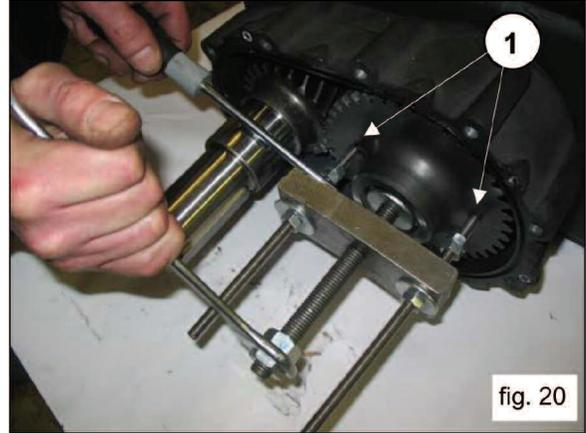

fig. 17
Remove the reduction gear box cover fixing screws. Position the holes and screw in 3 grub screws or M8 threaded screws (1, fig. 17) with the function of extractors and simultaneously tap on the pinion in such a way that the bearing remains on during cover extraction (fig. 18).
F) Extract the outlet plates (3) and their respective guides (4) with their springs, as indicated in fig. 44-45, check their conditions, replace if necessary and at the intervals indicated in section 11 (fig. 17) of the Owner's Manual.